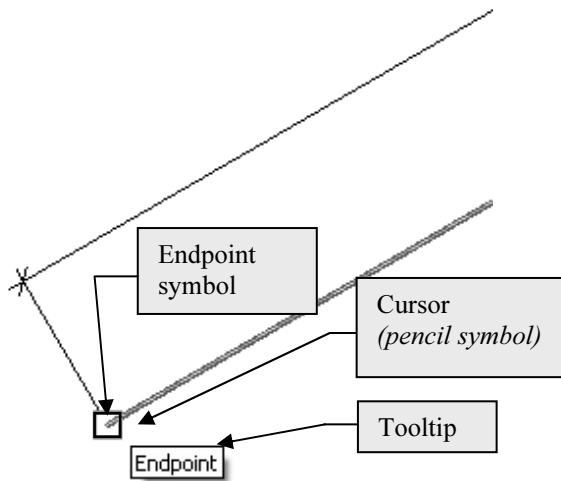

Figure 3-2.4 Endpoint SNAP symbol visible
10. Using the **Detail Line** tool, move your cursor to the lower-left portion of the diagonal line (Figure 3-2.4).